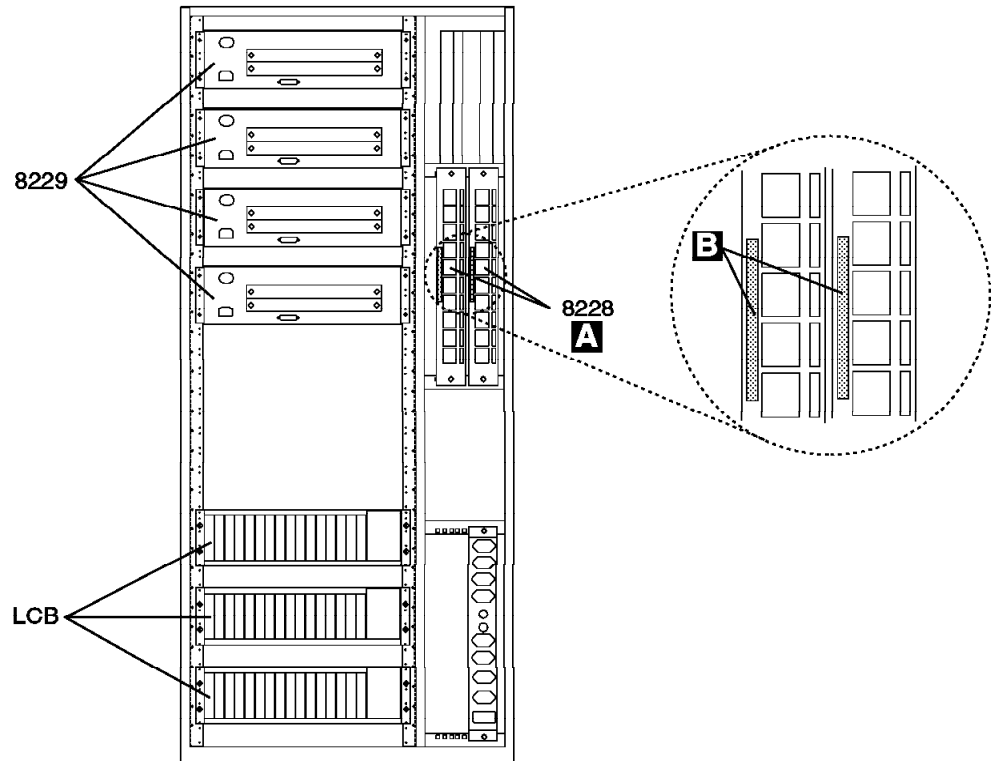

Figure 10. Installing Four Ethernet Bridge in the Controller Expansion-B (Rear View)
- In the **controller expansion-B**, Refer to **Figure 10 on page 21**